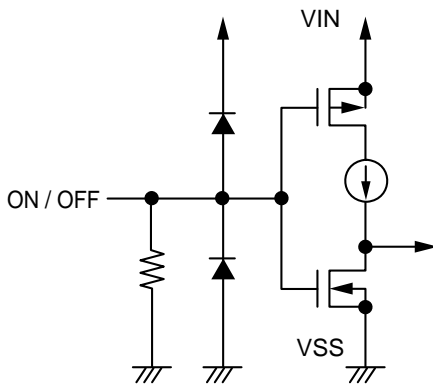

Figure 17
Note that the current consumption increases when a voltage of 0.3 V to 1.0 V ($T_a = 25^\circ\text{C}$) is applied to the ON / OFF pin. The ON / OFF pin is configured as shown in **Figures 17** and **18**. In the S-1137 Series A / C types, the ON / OFF pin is internally pulled down to VSS in the floating status, so the VOUT pin is set to the V_{SS} level. In the S-1137 Series B / D types, the ON / OFF pin is not internally pulled down, so do not use these types with the ON / OFF pin in the floating status. When not using the ON / OFF pin in the S-1137 Series B / D types, connect the pin to the VIN pin.
*1. IC's current consumption increases as much as current flows into the pull-down resistor when the ON / OFF pin is connected to VIN and the S-1137 Series A / C types is operating (**Figure 17**).